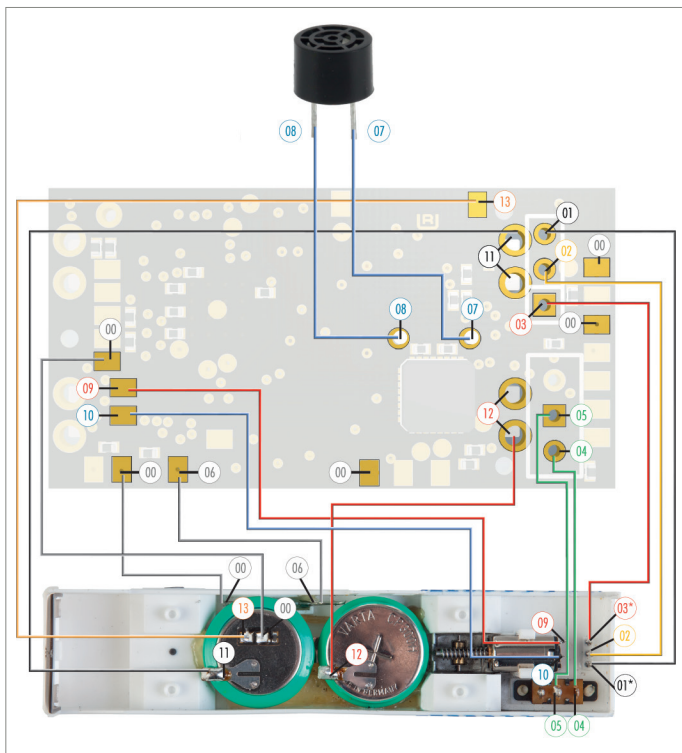

Fig. 40: Connection diagram, type bus model
***NOTE:** Pay attention to the "+" (plus) pole you have previously defined and marked at the charging socket, and connect it with pad "03" on the conversion PCB. In connection diagram Fig. 40, pads "01" and "03" are on vehicle side merely examples of pad assignment. See also Chapter "Converting the vehicle".